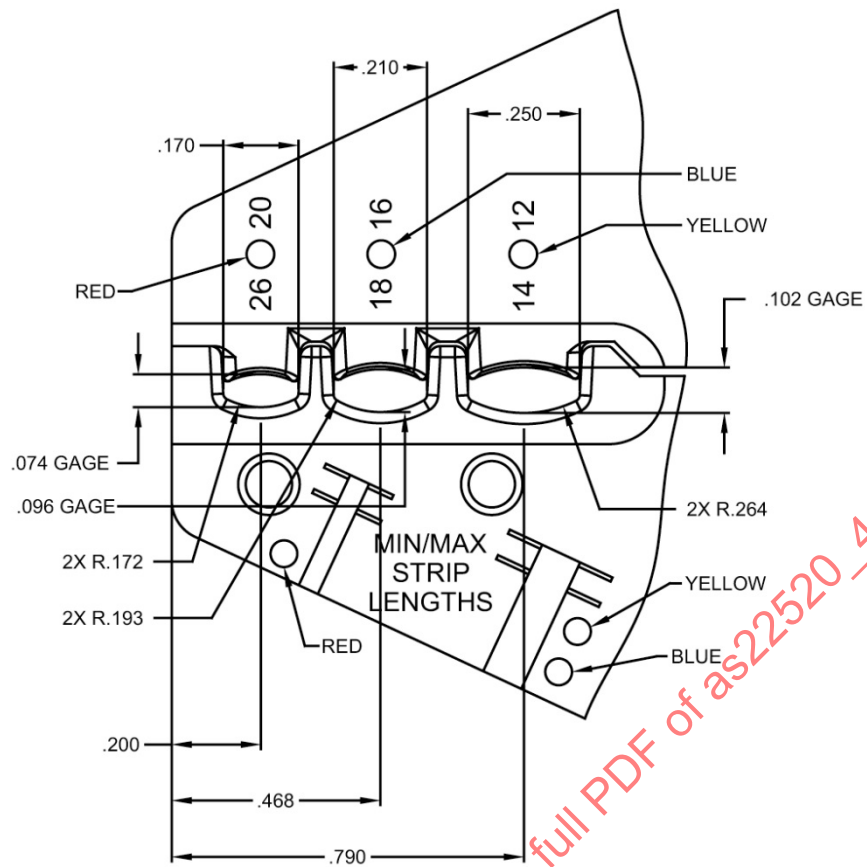

FIGURE 2 - M22520/44-01 CRIMPING TOOL JAW DETAIL
- THE WIRE STRIP LENGTH INDICATORS SHALL BE INDENTED INTO THE JAW SURFACE (FIGURES 2 AND 4).